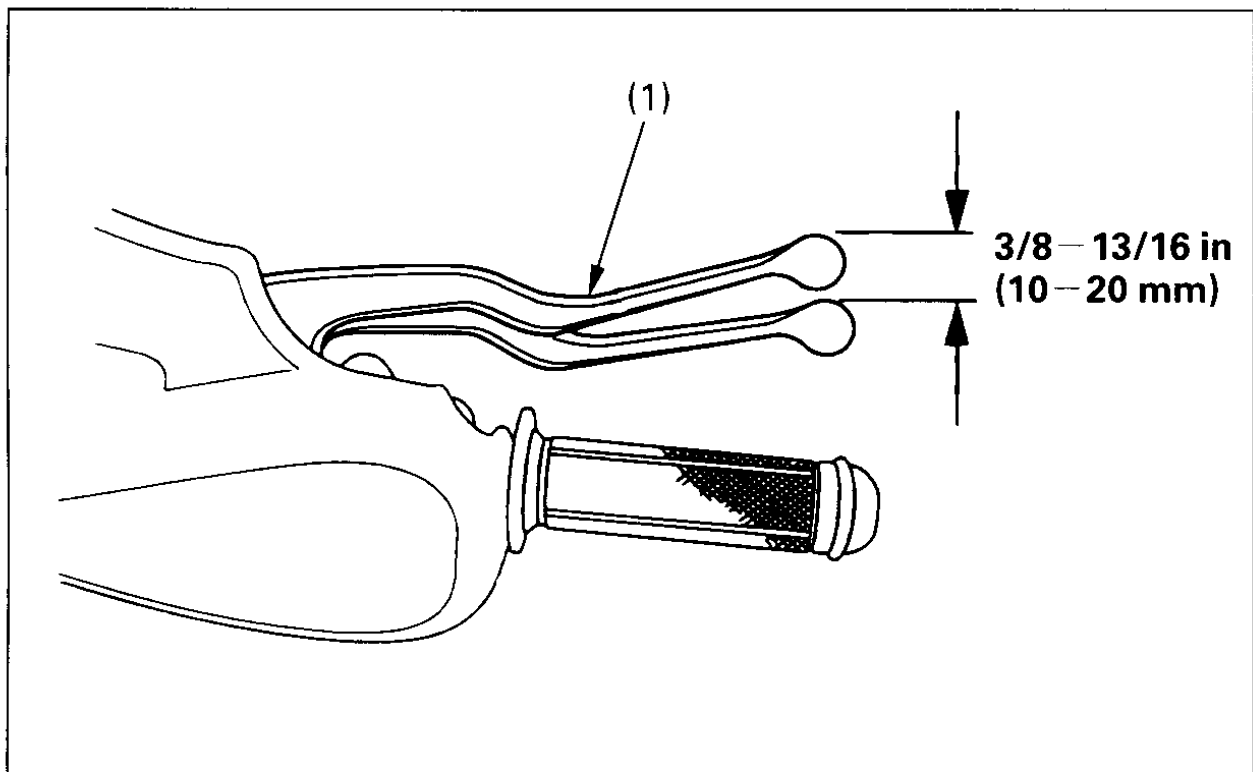

Fig. 4-17
1. Measure the distance the brake lever (Fig. 4-17) moves before the brakes start to take hold. Free play, measured at the tip of the front brake lever (1) should be: